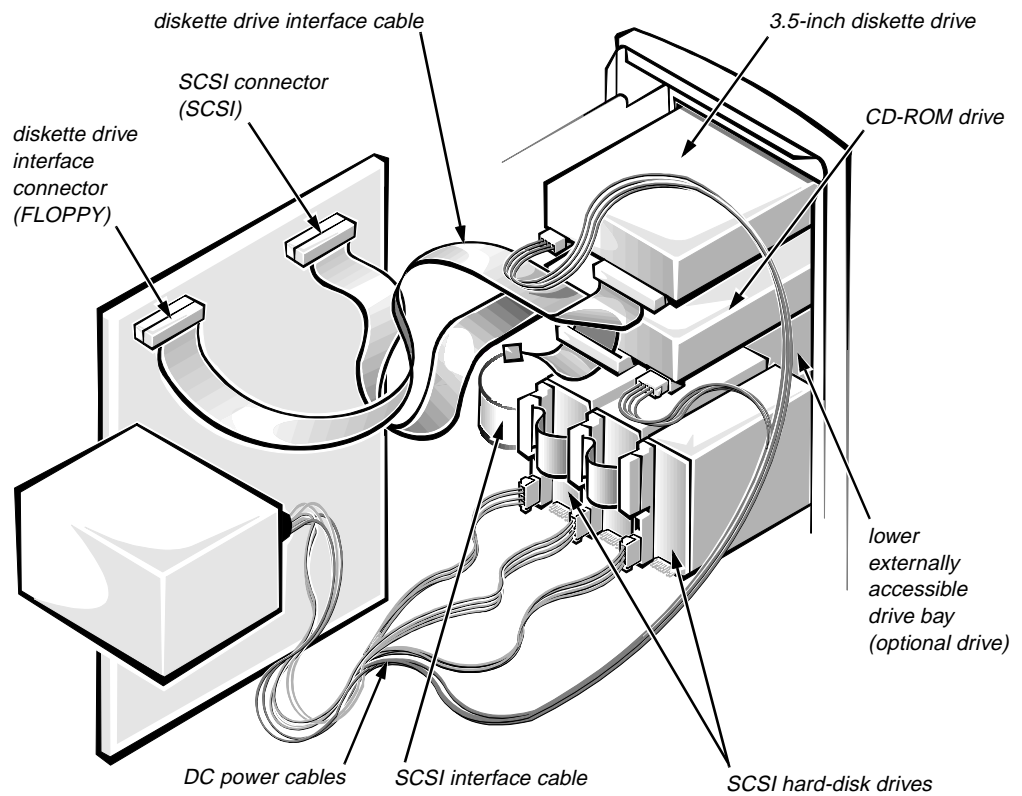
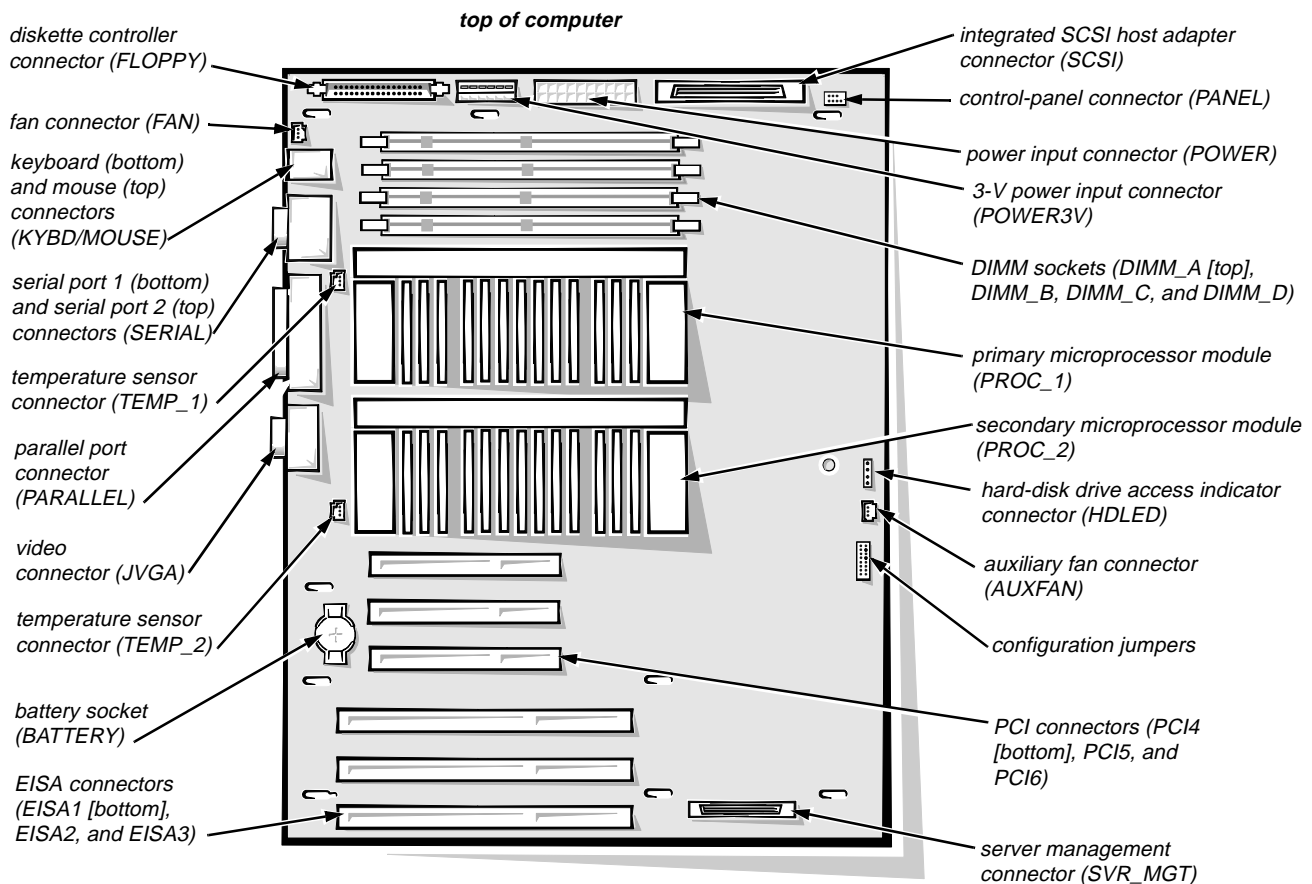

Figure 4-7. Drive Hardware
Figure 4-14. System Board Components
- 1. Disconnect the control-panel assembly cable from the PANEL connector on the system board (see Figure 4-14).**
Figure 4-7 shows an example of drive hardware that can be installed in the computer. Refer to this figure when you perform any of the procedures in the following subsections.
- 2. Disconnect the DC power cables from the system board (see Figure 4-14), the externally accessible drives, and the hard-disk drives (see Figure 4-7).**
- 2. Disconnect the system cooling-fan cable from the FAN connector on the system board (see Figure 4-14).**